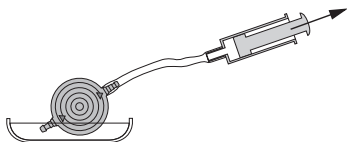

Fig. 19: Patency test
M.blue should be vented before implantation and checked for permeability. The most careful way of filling the valve is by aspiration through a sterile single-use syringe attached to the distal end of the catheter. The distal end of the valve is connected and immersed in a sterile physiological salt solution. The valve is continuous if saline solution can be extracted (Fig. 19).